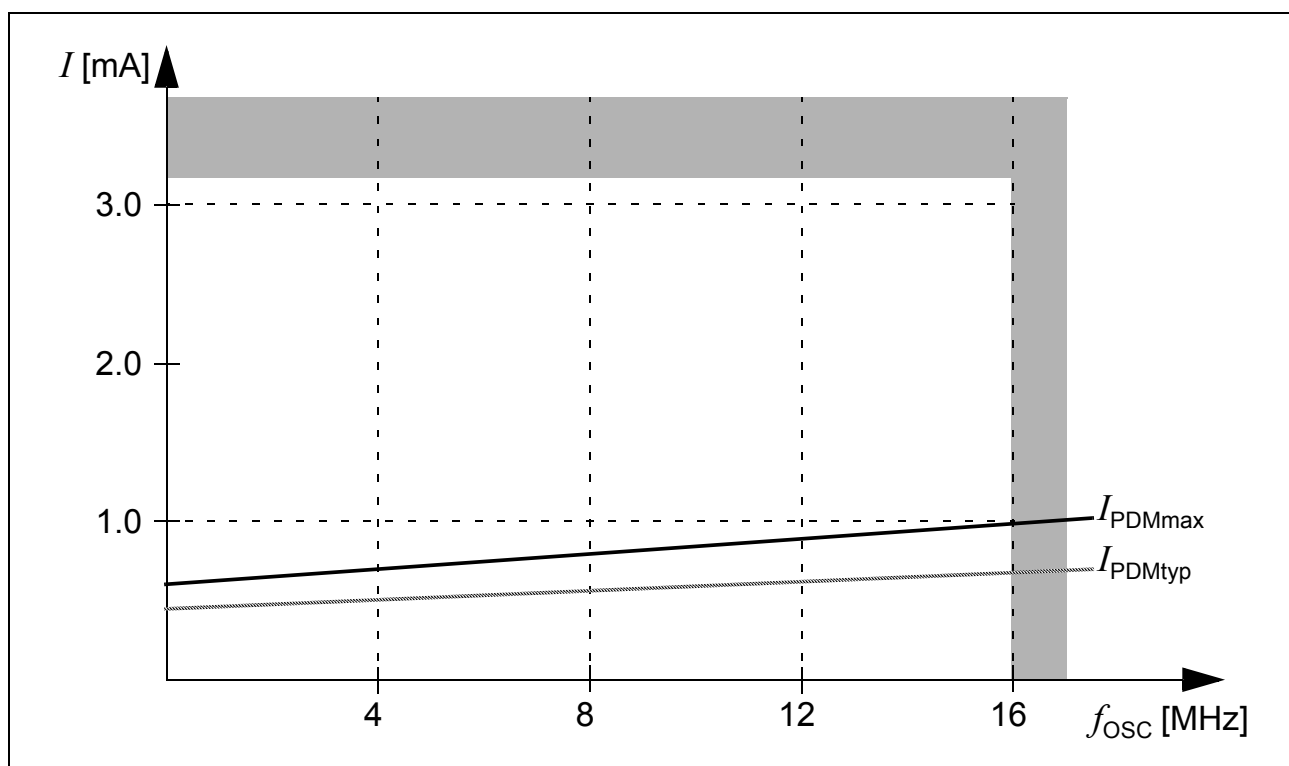

Figure 10 Sleep and Power Down Supply Current due to RTC and Oscillator Running, as a Function of Oscillator Frequency
- 7) This parameter is determined mainly by the current consumed by the oscillator switched to low gain mode (see Figure 10). This current, however, is influenced by the external oscillator circuitry (crystal, capacitors). The given values refer to a typical circuitry and may change in case of a not optimized external oscillator circuitry.